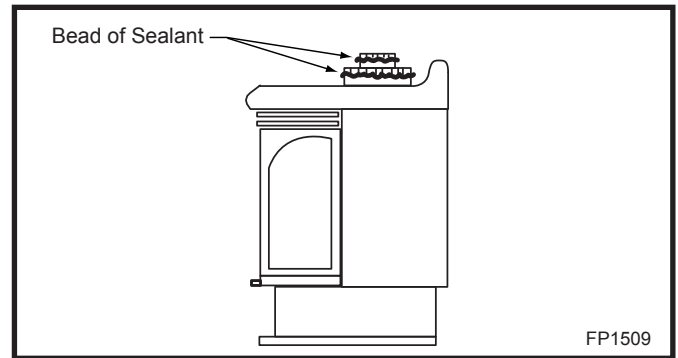

Fig. 16 Horizontal vent length.
Apply a bead of high temperature sealant to the inner and outer flue collars of the fireplace and using appropriate venting component(s) attach to fireplace with three (3) screws. (Fig. 16) Follow with the installation of the inner and outer elbow. Again secure joints as described on Page 8.